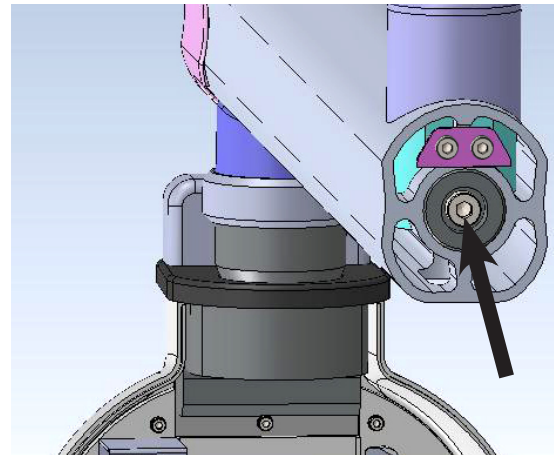

Figure 52
- Remove M8x25 positive lock screw and M8 spring & plane washers from the straight arm using 6mm al-len key as shown in Figure 52 .